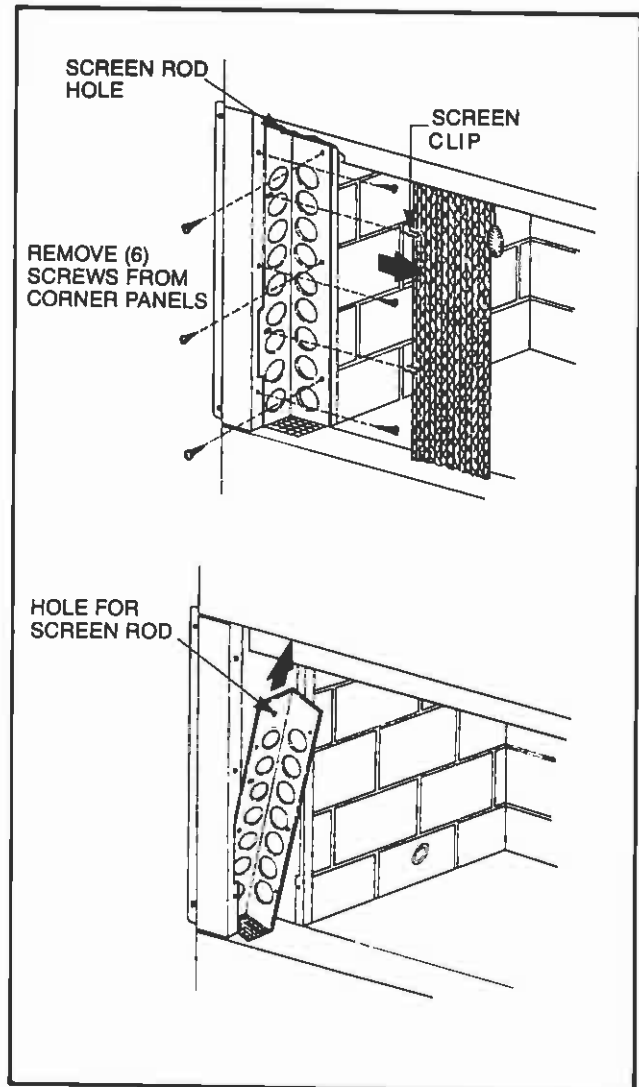

Fig. 2. Removal of corner panel.
3. To install the MFK fans, the perforated corner panels with the 1½" diameter holes must be removed. To remove these panels first remove the two (2) screen retaining clips on each side and slide screen to center of fireplace opening (not necessary if fireplace doors were just removed). Next, using the Phillips head screwdriver, remove the six (6) screws retaining each of the perforated corner panels. Grasp the corner panel through the perforated holes and set back into the wall cavity, making sure that the screen rod slips out of the small hole in the top of the panel. Then tilt top of each corner panel out through cavity opening and withdraw entirely (See Fig. 2). Save corner panels for later reinstallation.